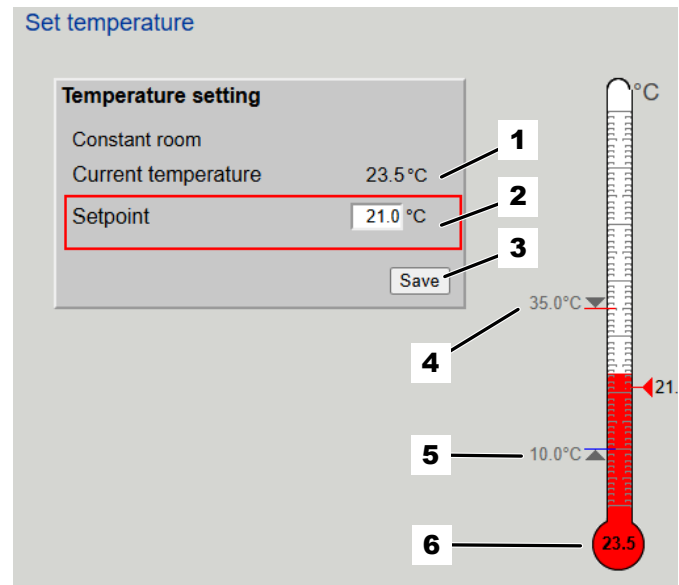

Fig. 29: Temperature setting
- Enter a temperature setpoint ( Fig. 29 /2).
- Click on 'Save' ( Fig. 29 /3).